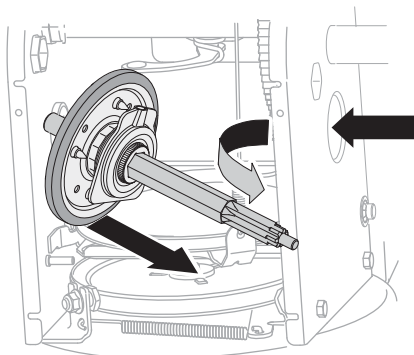

Figure 4-23
6. Carefully position hex shaft downward and to left before carefully sliding friction wheel assembly off shaft. See Figure 4-23.